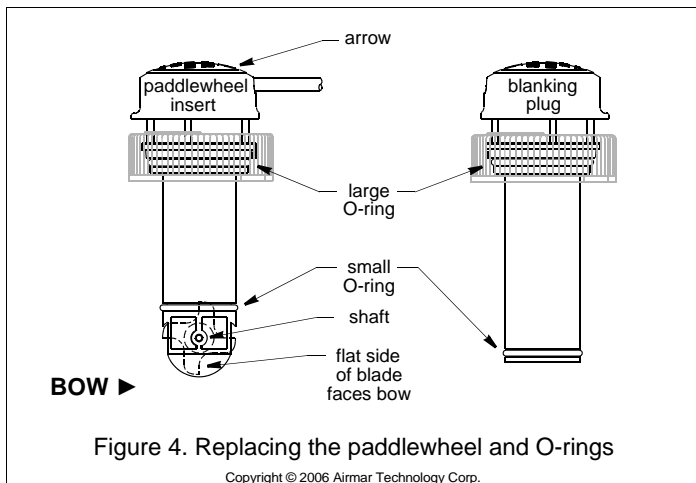

Figure 4. Replacing the paddlewheel and O-rings
1. The O-rings must be intact and well lubricated to make a watertight seal. On the blanking plug, inspect the O-rings (replace if necessary) and lubricate them with the silicone lubricant supplied or petroleum jelly (Figure 4).
1. Using the new shaft, push the old shaft out about 6mm (1/4"). With pliers, remove the old shaft (Figure 4).